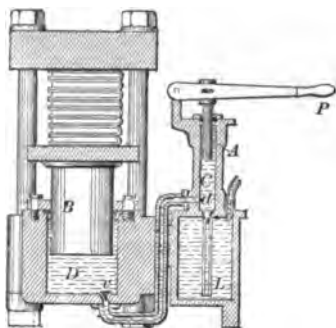

FIG. 46. — Hydraulic press.
**53. Applications of the hydraulic press.** This device of Pascal gives us an easy way of exerting enormous forces, such as are needed in baling paper, cotton, etc., in punching holes through steel plates, and for extracting oil out of seeds. The commercial machine (Fig. 46) is exactly like that described